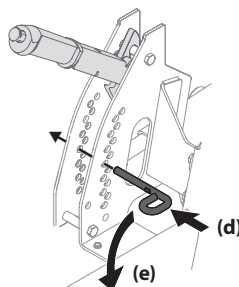

Figure 3-3
2. Insert the pin into the desired deck height best suited for your application (d). Turn the pin to lock it into place (e). See Figure 3-3.